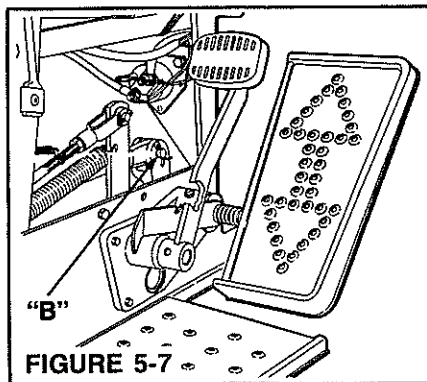

FIGURE 5-7
2. Remove cotter pin from pin B or rod D. Remove pin or rod from control arm Figure 5-7 or 5-7A.